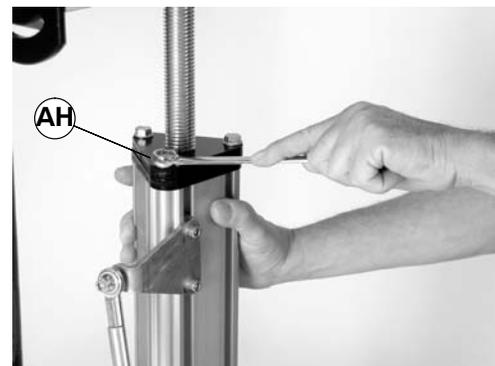

Figure 20
5. Loosen the three tri-lobe hex head screws (AH of Figure 20).
<p>WARNING</p> <p>Failure to secure screws (AH) of Figure 20) may cause conveyor sections to drop down, causing severe injury.</p>
7. Re-tighten tri-lobe hex head screws (AH of Figure 20) to 100 in-lb (11 N-m).